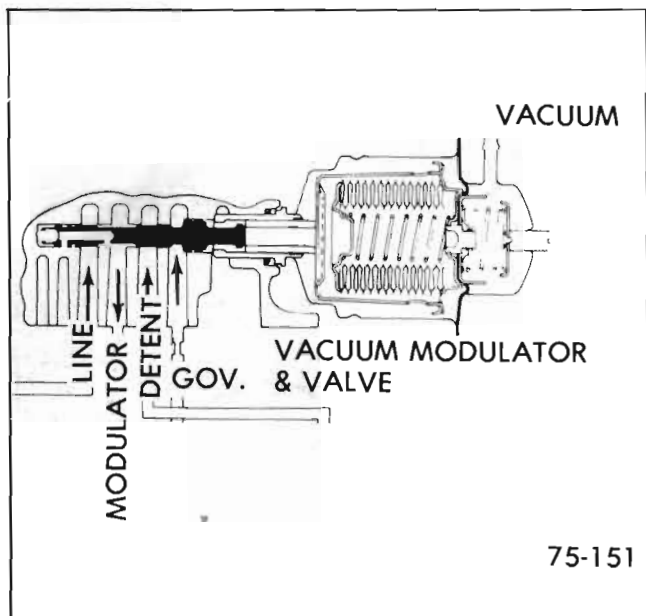

Figure 75-19 - Modulator Valve
**F. Modulator Valve (See Figure 75-19)**